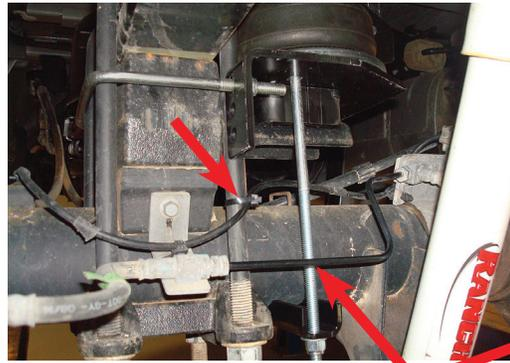
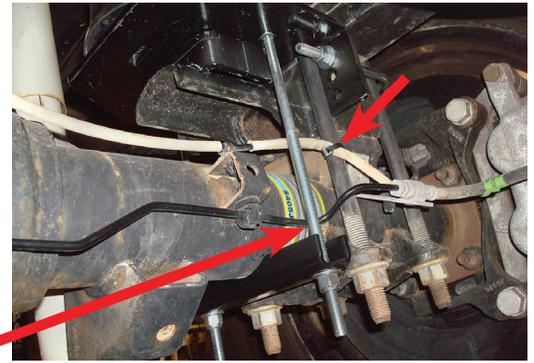

fig. D.20
fig. D.21
On the driver's side (left), the long carriage bolt in the lower bracket main plate should be located between the hard brake line and axle (Fig. D.20). On the passenger's side (right), the carriage bolt should be located on the backside of the brake line (Fig. D.21).
6. Figures D.20 & D.21 show the lower bracket installed.
IT WILL BE NECESSARY TO PUSH THE HARD BRAKE LINE AWAY FROM THE LOWER BRACKET CARRIAGE BOLT IF THE LINE IS RESTING ON IT (FIGS. D.20 & D.21).